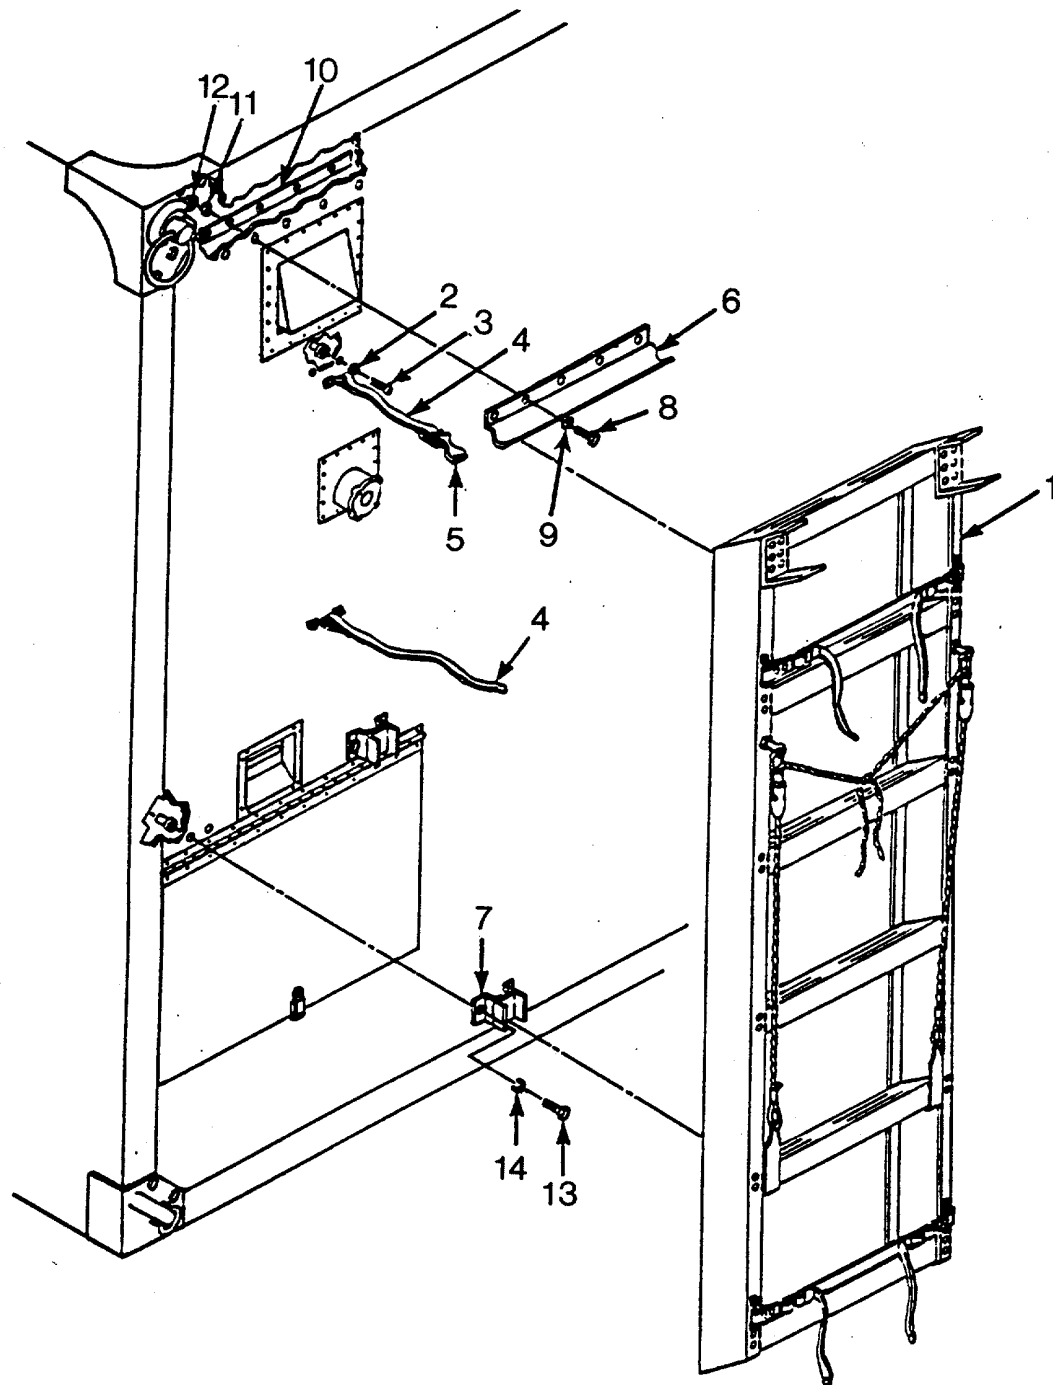

Figure 4-51. Ladder Assembly
a. Inspect. (See Figure 4-51.)
- (1) Check shelter rear ladder assembly for security and completeness.
- (2) Inspect ladder (1) for dents and cracks.
- (3) Check ladder assembly fastener loops (2) and screws (3) for security.
- (4) Check ladder assembly retaining strap (4) and buckle (5) for security and condition.
- (5) Check ladder assembly upper mounting bracket (6) for cracks, rust, corrosion, security of attachments, and sealant condition.
- (6) Check ladder assembly retainer brackets (7) for cracks, rust, corrosion, security of attachment, and sealant condition.
b. Replace. (See Figure 4-51.)
- (1) Unlatch ladder assembly retaining strap (4).
- (2) Remove ladder (1).
- (3) Remove screws (3) and retaining strap fastener loops (2).
- (4) Remove retaining strap (4).
- (5) Remove upper mounting bracket bolts (8), flat washers (9), backing plate (10), lockwashers (11), and nuts (12).
- (6) Remove upper mounting bracket (6).
4-40. **LADDER ASSEMBLY.** - Continuedb. Replace. (See Figure 4-51.)
b. Replace. - Continued. (See Figure 4-51.)
- c. Repair. (See Figure 4-51.)